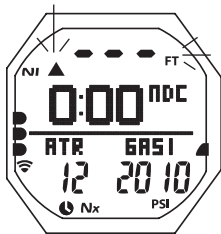

Fig. 93 - DV3 MAIN
**DV3 MAIN**, information includes (Fig. 93) -